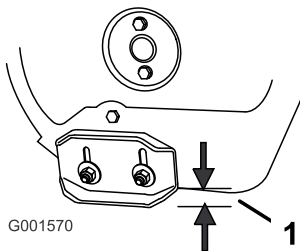

Figure 33
2. Loosen the nuts that secure both skids to the auger sides until the skids slide up and down easily (Figure 33).